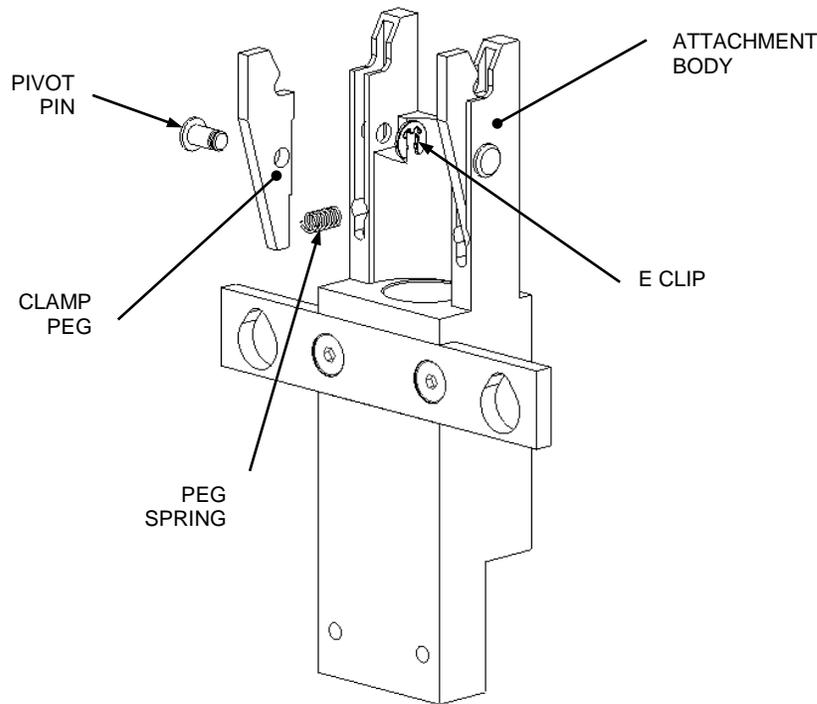

Figure 13-12: Attachment Body
There is a clamp peg and pivot pin on each side of the attachment body (Figure 13-12). The pin should be removed.
1. Fit a Peg Spring (42000470) into the back of the Attachment Body (Figure 13-12).